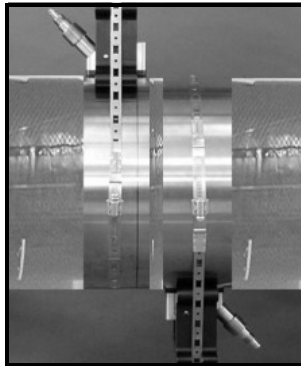

Figure 37: Completed DMP-1 Installation
6. Wrap each of these strips around the pipe on the outside edge of the clamping fixture, one upstream and one downstream. The completed installation should appear similar to Figure 37.